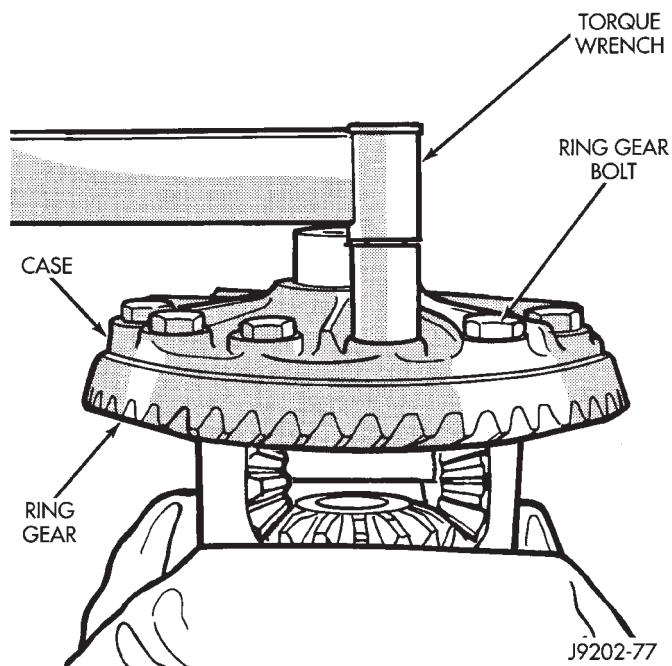

Fig. 39 Ring Gear Bolt Installation
(3) Invert the differential case and start two ring gear bolts. This will provide case-to-ring gear bolt hole alignment.
(4) Install new ring gear bolts and alternately tighten to 95-122 N·m (70-90 ft. lbs.) torque (Fig. 39).
(5) Lubricate all differential components with hypoid gear lubricant.